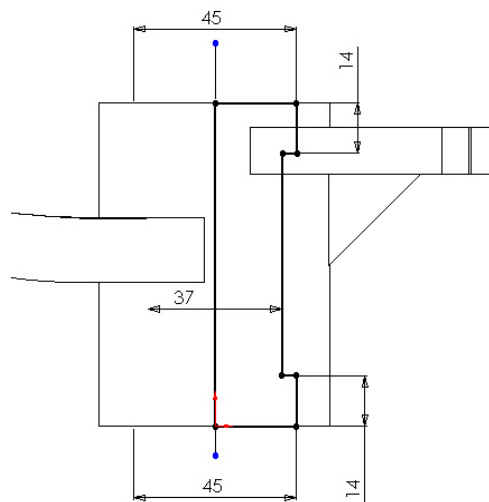

Figure 19 Head hole profile.
6. Sketch the hole cut profile as shown in Figure 19.